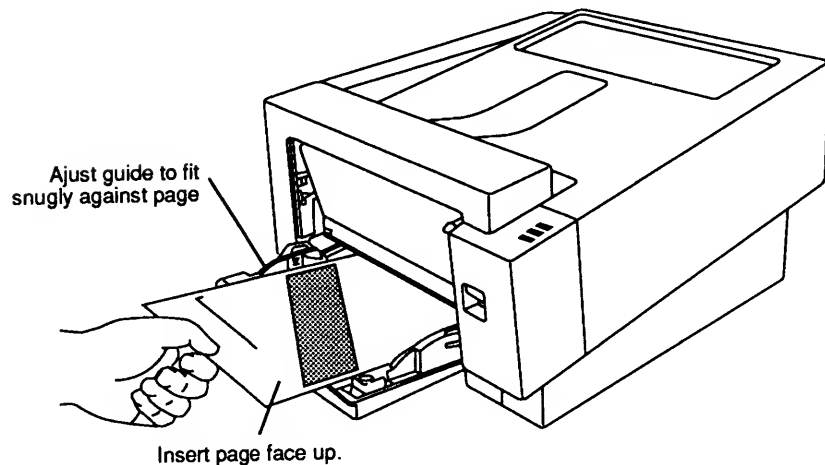

Figure 5-2 Cleaning Page
5. Place the Cleaning Page print face-up on the multipurpose tray (**Figure 5-2**).